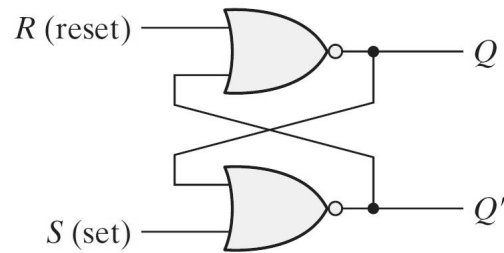

Fig.2: SR Latch with NOR gates
1. Realize the SR Latch in **Fig.2** with **NOR gates** using your **SSI Library**. This module is going to have 1-bit inputs **S**, **R**, and 1-bit outputs **Q**, **Qn**. Connect these ports, **S**, **R**, **Q**, **Qn** to **SW1**, **SW0**, **LED1**, **LED0**, respectively.